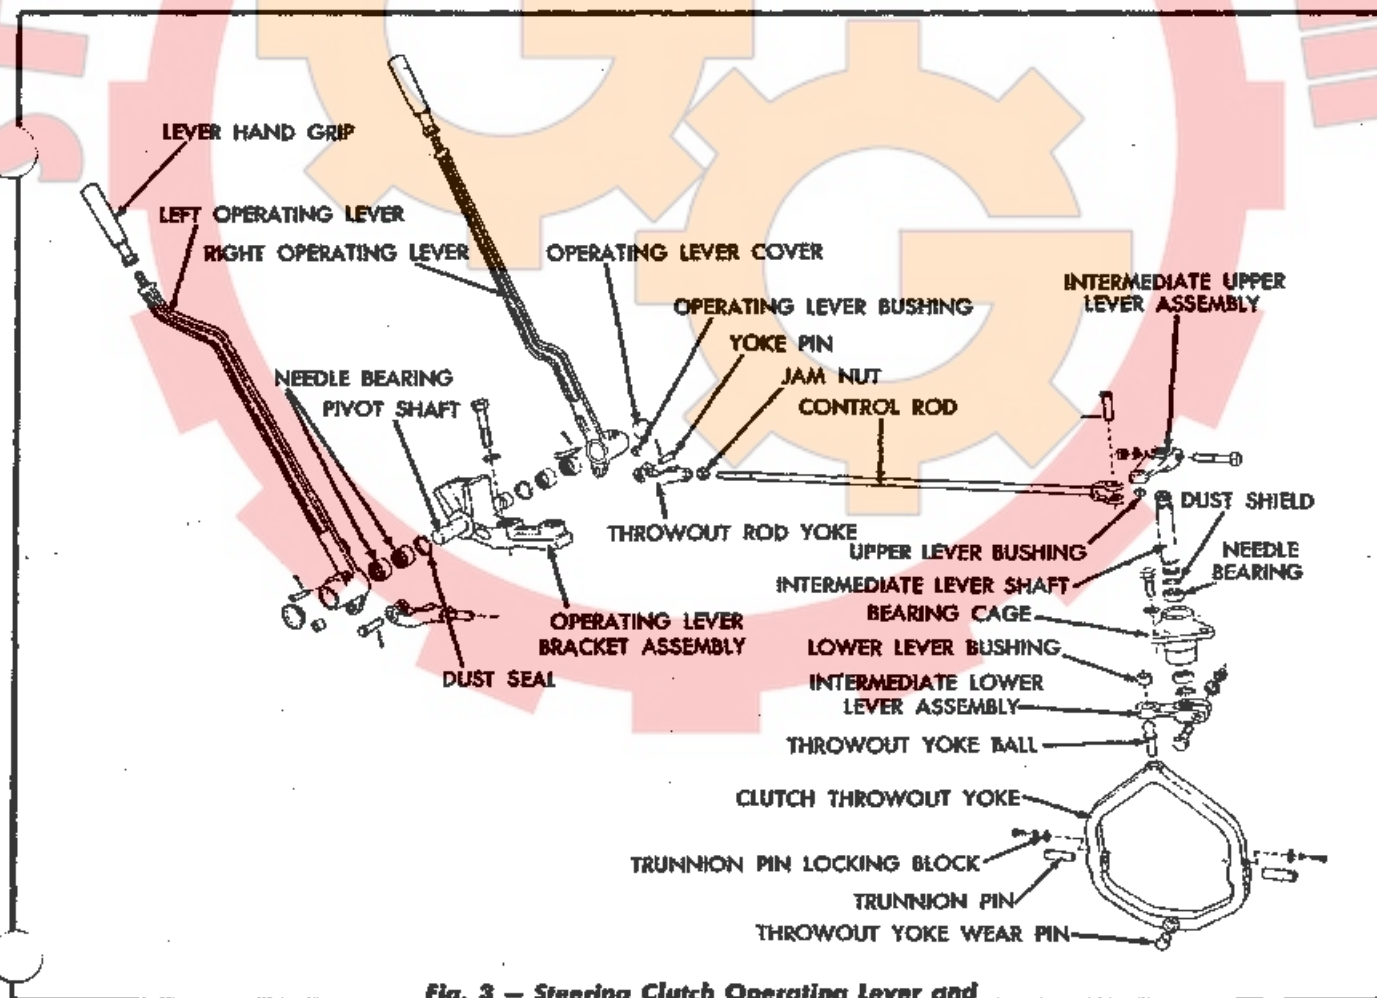

Fig. 3 — Steering Clutch Operating Lever and Linkage Details
**NOTE:** There is only a limited amount of adjustment in each control rod. When this has been used, it will be necessary to change the position of the intermediate upper lever assembly (Fig. 3) on the intermediate lever shaft as follows: